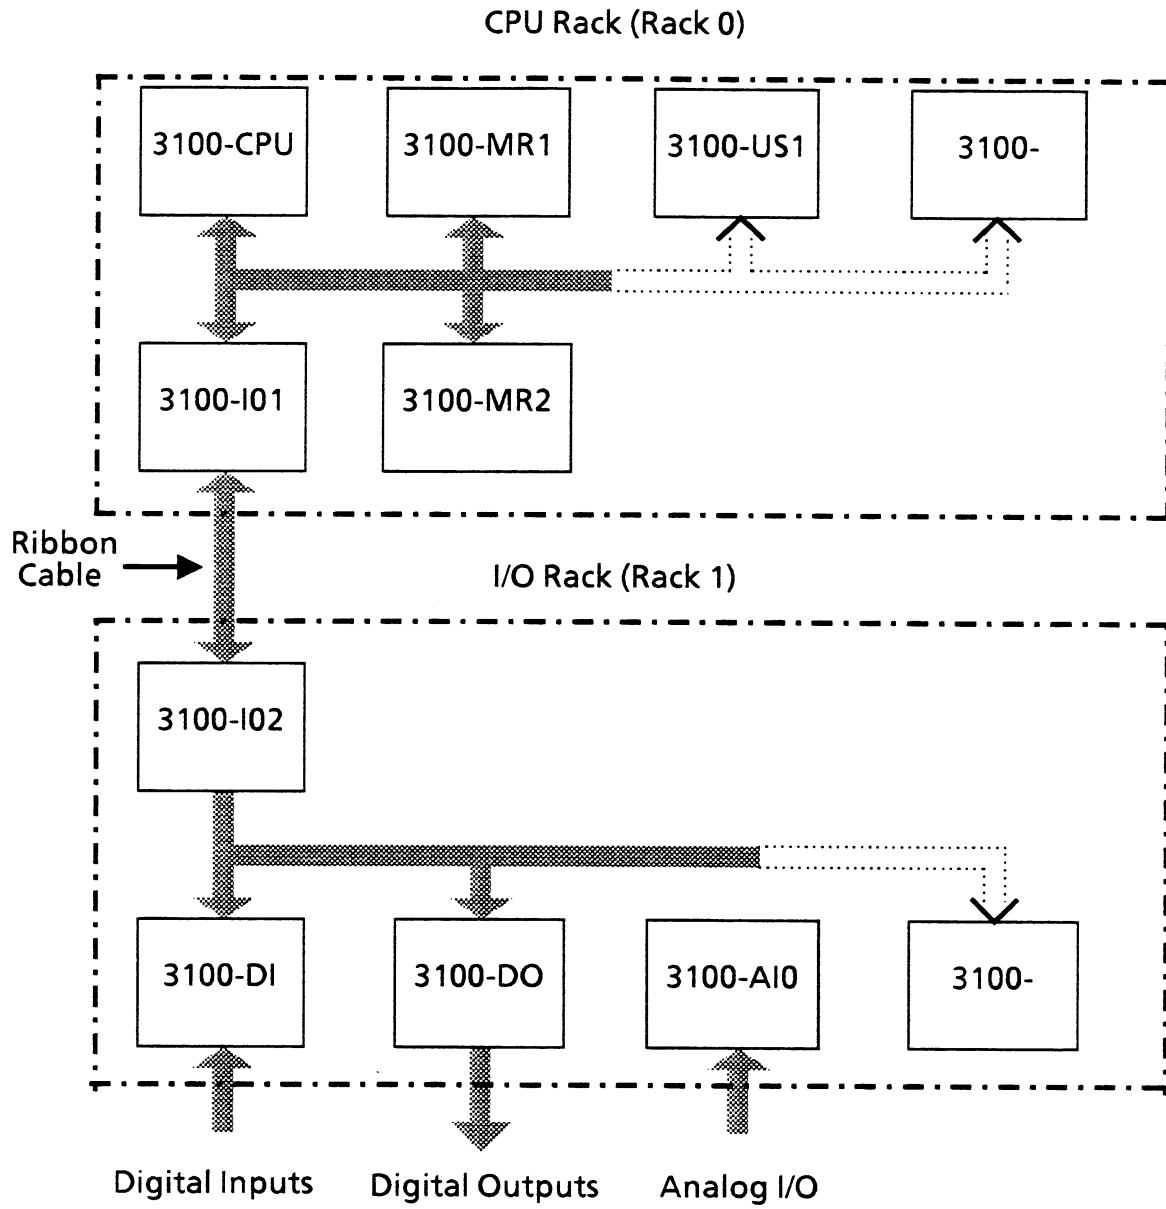

Figure 1. I/O Processor Card used for the addition of 1 I/O Rack
**Description of Operation** The I/O Processor Card allows for the addition of one I/O rack per card (Figure 1). Switch settings on the card determine the memory address of the I/O Processor Card and correspond to the I/O rack number. A maximum of 4 I/O Processor Cards may be used. The main CPU rack, which contains the CPU Card is always designated Rack 0. I/O racks are then numbered 1 thru 4 sequentially starting at 1 for the first rack, etc. I/O rack numbers cannot be skipped, therefore, if there is only one I/O rack, it must be Rack 1, if there are two racks, they must be Rack 1 and 2, etc.
**Memory** On the card, there are 4 memory chip sockets located in the lower right corner (Figure 1), which contain 32 K-bytes of RAM memory which is used as shared memory by both the I/O Processor card and the CPU Card. In addition to the 32 K of RAM memory, the programmable interrupt controller and programmable interval timer are assigned an additional 32K of memory addresses by the CPU Card. This means that the I/O Processor Card reserves a total of 64 K-bytes in the CPU memory map.